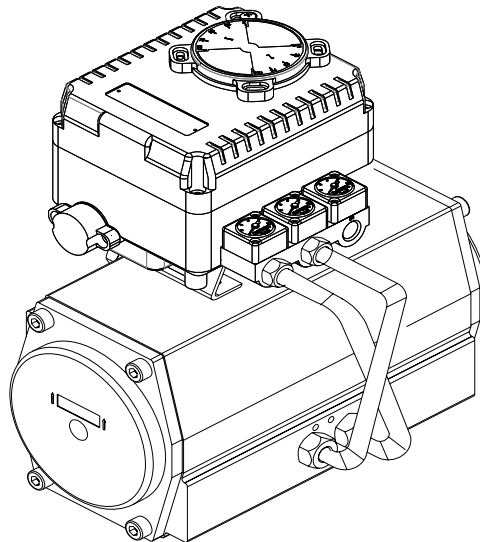

Fig. 5
(2) Attach bracketed RTX – 1000 to the actuator by using slotted screw and hexagon nuts. When tightening bolts, use spring washer or similar for firm attachment to the actuator, so RTX – 1000 have no effect by vibration or any other impact. The positioner is installed as shown in **Fig. 5**.